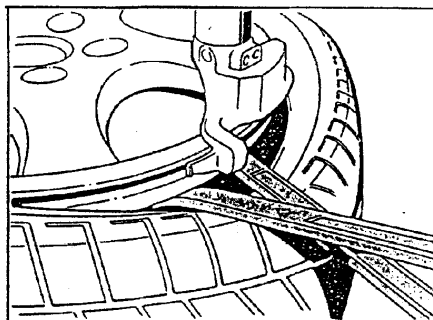

Figure 6
- When rotating and when fitting the second tire bead, retain the tire bead in the drop center using a second tire lever (Figure 6) and special tool 9539.